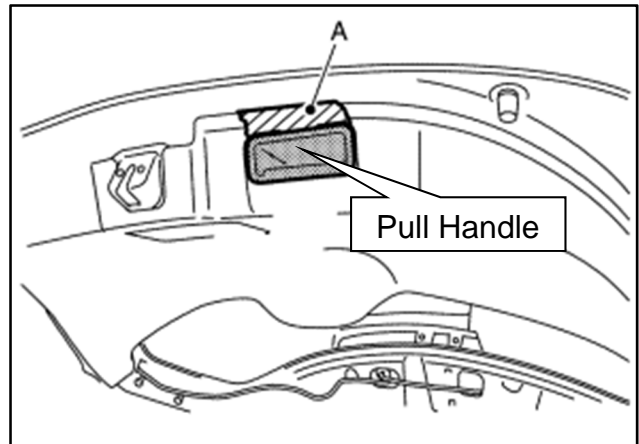
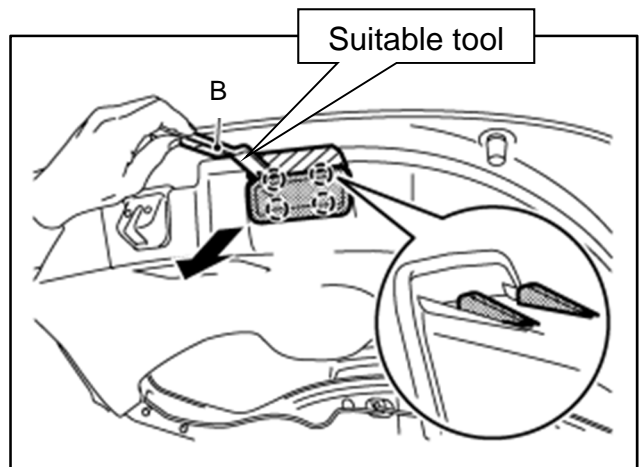

Figure 6
Figure 7
10. Remove the rear door pull handle (Figure 6 and Figure 7).
- a. Apply protective tape (A) on the parts to protect them from damage.
- b. Release back door pull handle fixing pawls with a suitable tool (B), then remove the back door pull handle.